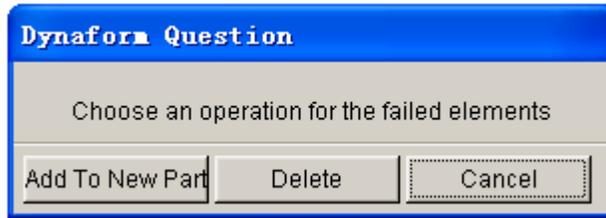

Figure 5.5.6 DYNAFORM Question dialog box
2. At same time, an eta/DYNAFORM QUESTION dialog box as illustrated in Figure 5.5.6 is displayed. If ADD TO NEW PART is selected, the CREATE PART dialog box is displayed to enable generation of new part. If DELETE is selected, all failed elements are deleted. The CANCEL option dismisses the operation.